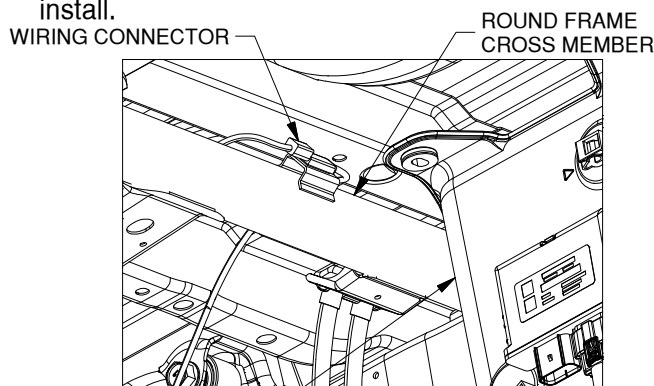

Figure A5
**9. Temporarily remove wiring connector.** For additional clearance, the wiring connector attached to the round frame cross member can be uninstalled from its bracket and allowed to hang during installation, see Figure A5. This will increase the clearance for the installation of the center section and protect the wiring connector during the install.